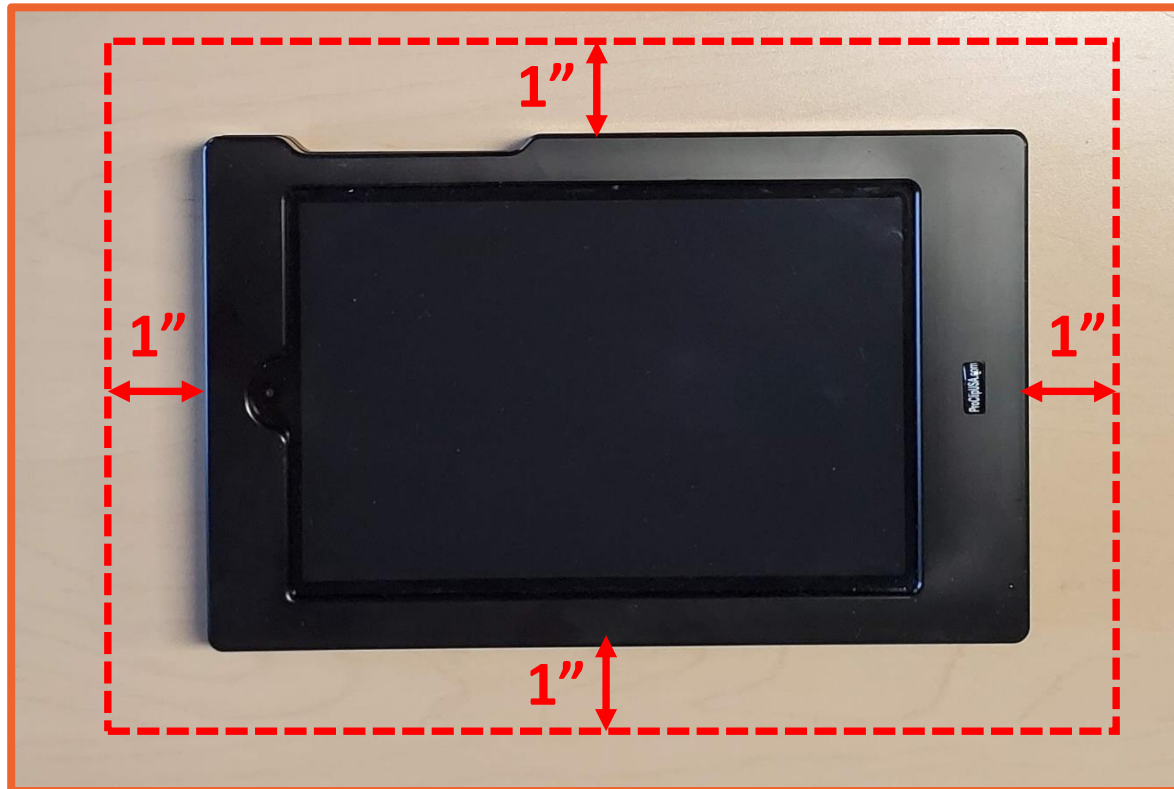

Figure 1.0
- See Figure 1.0 below regarding tablets location in cradle to prevent damage to USB cable, tablet, and cradle.